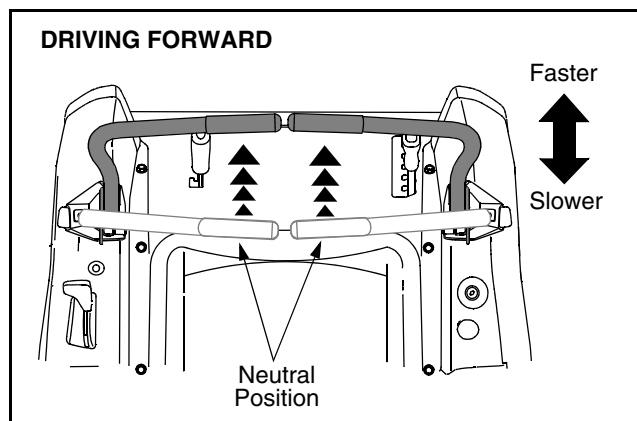

Figure 12
- Slowly and evenly move both drive control levers forward. The tractor will start to move forward. See Figure 12.